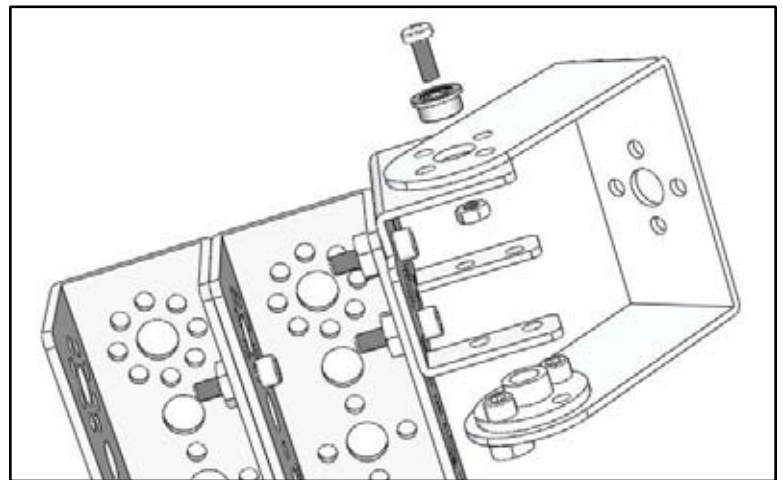
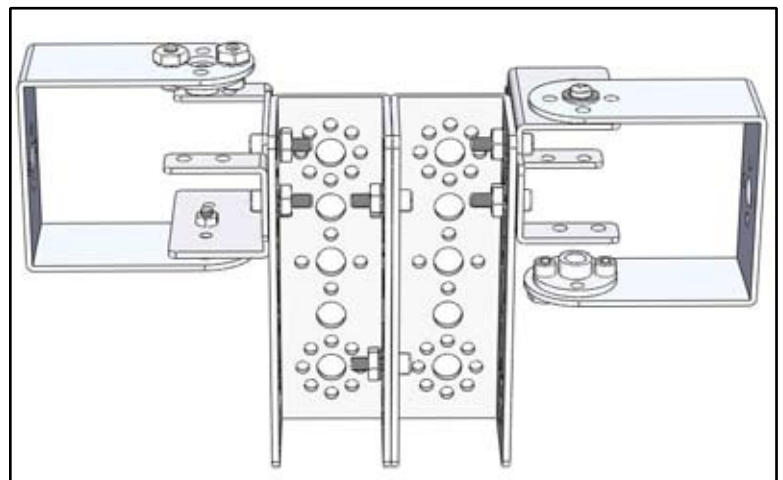

Figure D9
Figure D10
5) Thread the bearing screw through the bearing from the outside of the pivot bracket. Insert the screw into the back of one motor bracket (Figure D9). Secure the pieces together with the washer and nut and tighten the screw – but do not over-tighten. Repeat this with the other motor bracket, keeping in mind that the servos will face in opposite directions (Figure D10).